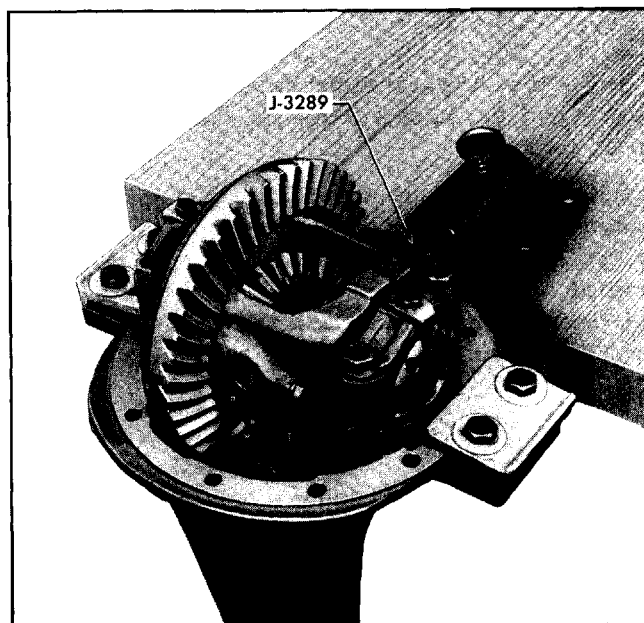

Fig. 4-14 Differential Mounted in Carrier Fixture J-3289
1. Wash interior parts of assembly with cleaning fluid and mount in Carrier Fixture J-3289 (Fig. 4-14).